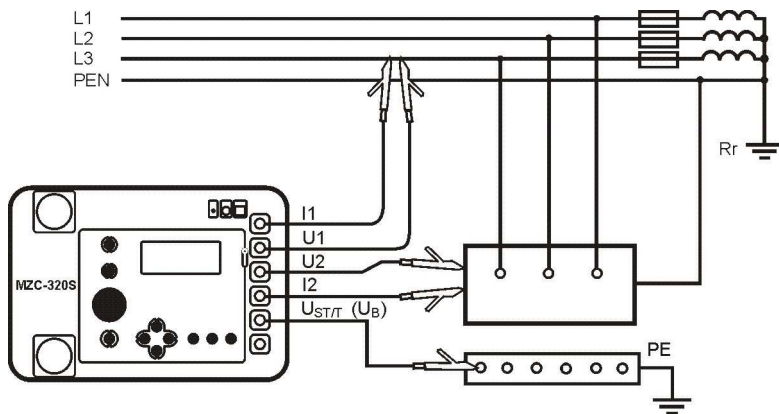
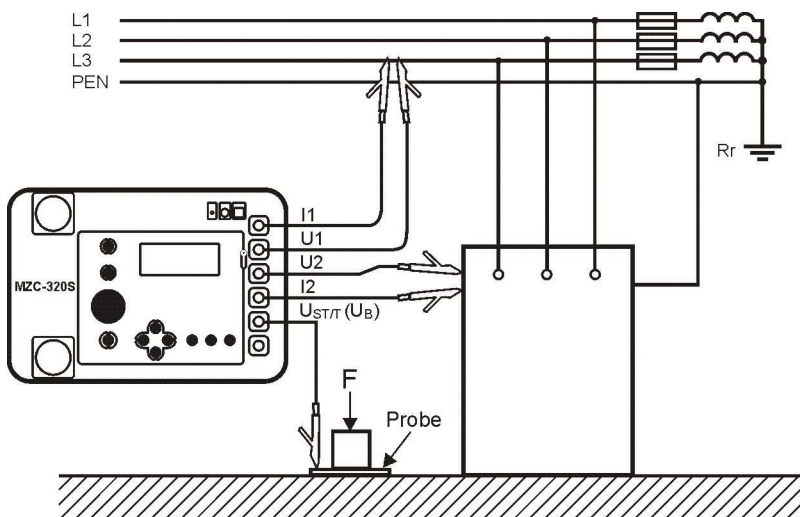

Fig.14 Measurement of touch voltage U_{ST}
Fig.15 Measurement of shock voltage U_T
- connect test leads according to Fig.14 or Fig.15:
The measurement of touch shock voltage U_T is performed after introducing an additional resistor (inside the device) of 1 k Ω between the terminals U_2 and $U_{ST/T}$ (U_B). The resistor simulates resistance of the human body, while the terminal $U_{ST/T}$ (U_B) is to be connected to the probe that simulates human feet located on the ground (Fig.15), whose properties and load are described by relevant standards.